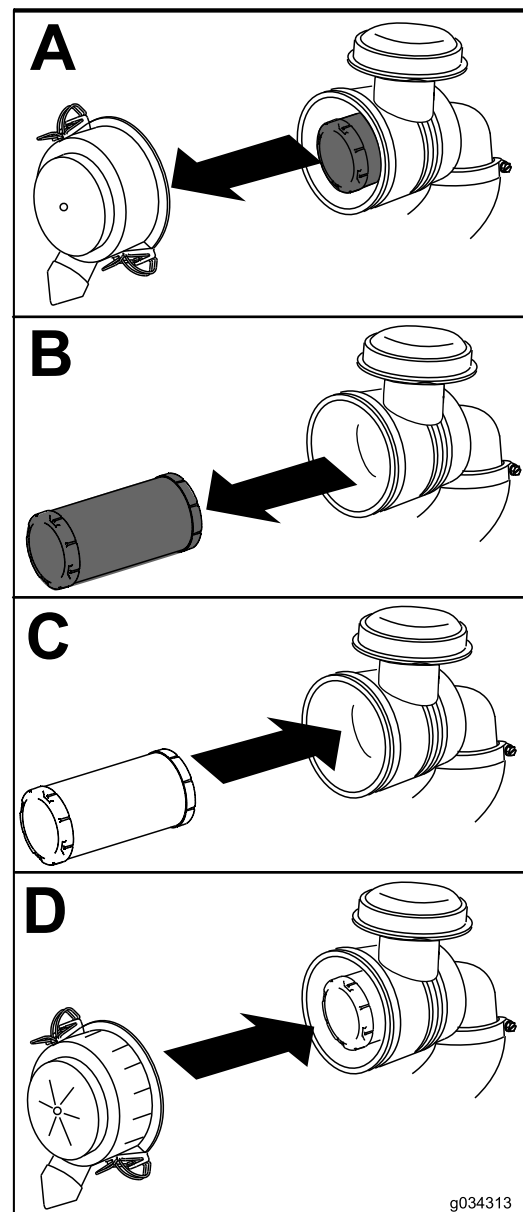

Figure 36
1. Gently slide the air-cleaner element out of the air-cleaner body (Figure 36).
4. Install the air-cleaner cover with the side indicated as UP facing upward and secure the latches (Figure 36).